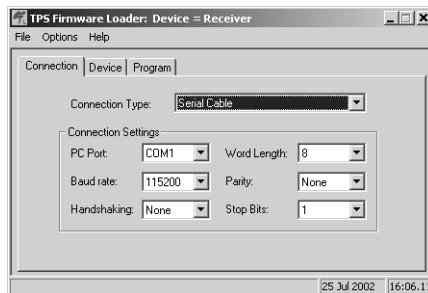

Figure 4-18. FLoader Main Screen
4. Activate FLoader (Figure 4-18).
5. On the Connection tab, select the COM port on your computer that connects with your receiver and select its speed (usually 115200) (Figure 4-18).